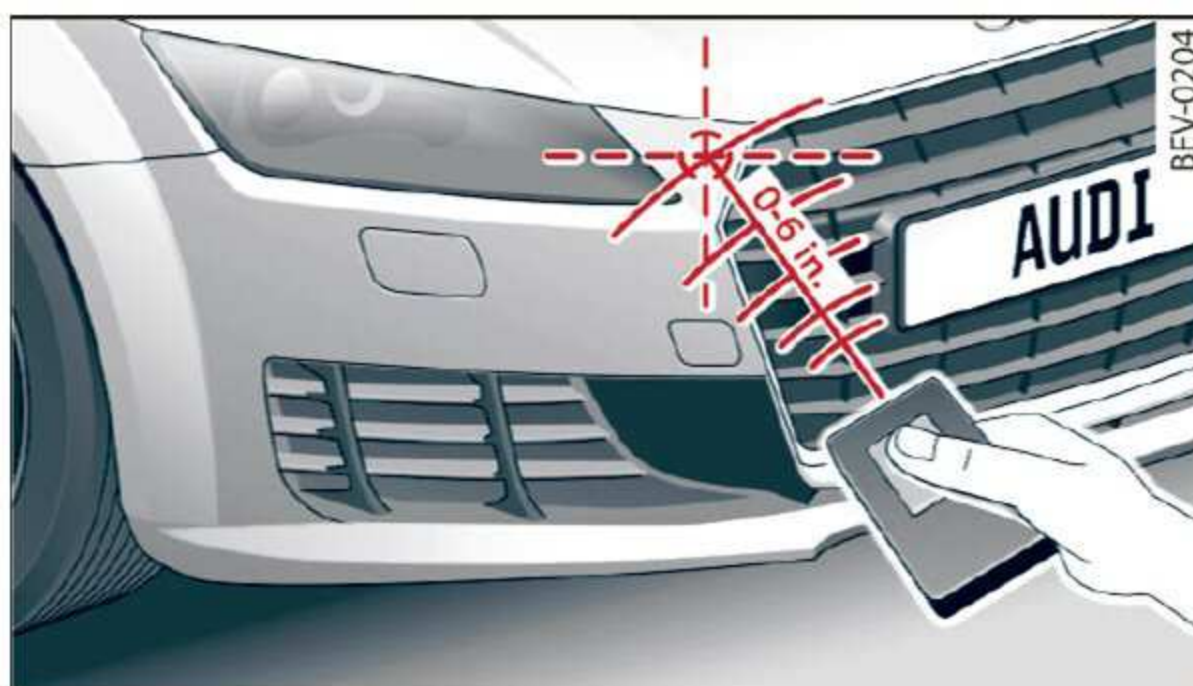

Fig. 26 Distance between the radiator grille and the remote control transmitter
6. Hold the remote control transmitter at the vehicle radiator grille ⇒ *fig. 26*.
- The distance needed between the remote control transmitter and the garage door opener module in the radiator grille ⇒ *fig. 26* depends on the system you are programming.